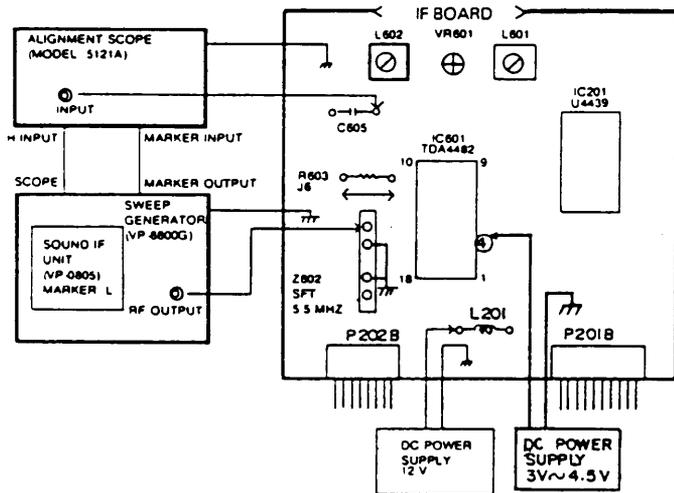

Fig 4. Connection Diagram of the Instruments
- Connect a detector lead (input of Alignment Scope) to the right lead of C605. (Fig. 4)
- 4) With the TV receiver turned off, apply 12VDC to the left lead of L201 and the AGC Bias voltage to the pin4 of IC601. (Fig. 4)